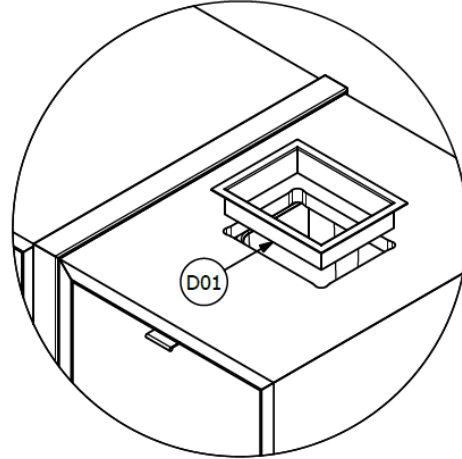

FIG. 12:
1. Using small dabs of Silicone (Y01), secure Trash Liner (D01) into Trash Liner cutout(s). See Figure 12.